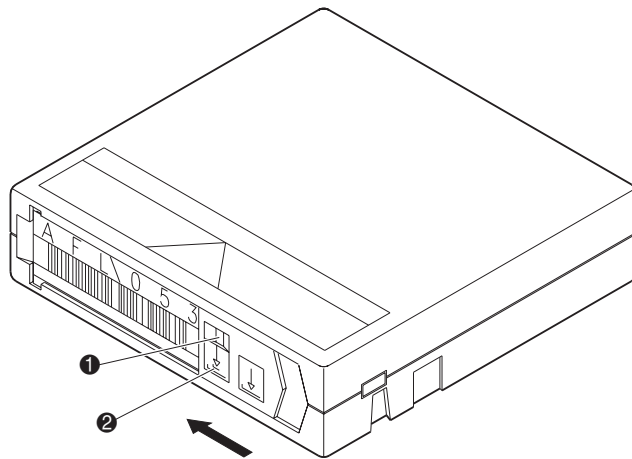

Figure 2-8: Write-protecting DLT tape cartridges
To write-protect the tape cartridge, move the switch to the left (❷ Figure 2-8). To write-enable the tape cartridge, leave the switch in default position (to the right). An orange indicator appears above the switch when the tape cartridge is write-protected (❶ Figure 2-8).